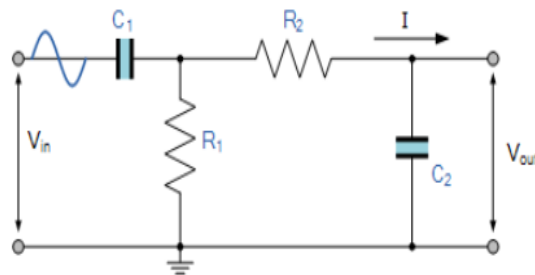

Figure 9.12: Circuit Diagram of Passive Band Pass Filter
3. Simulate the circuit in Figure 9.12 on PSpice using above calculated values.